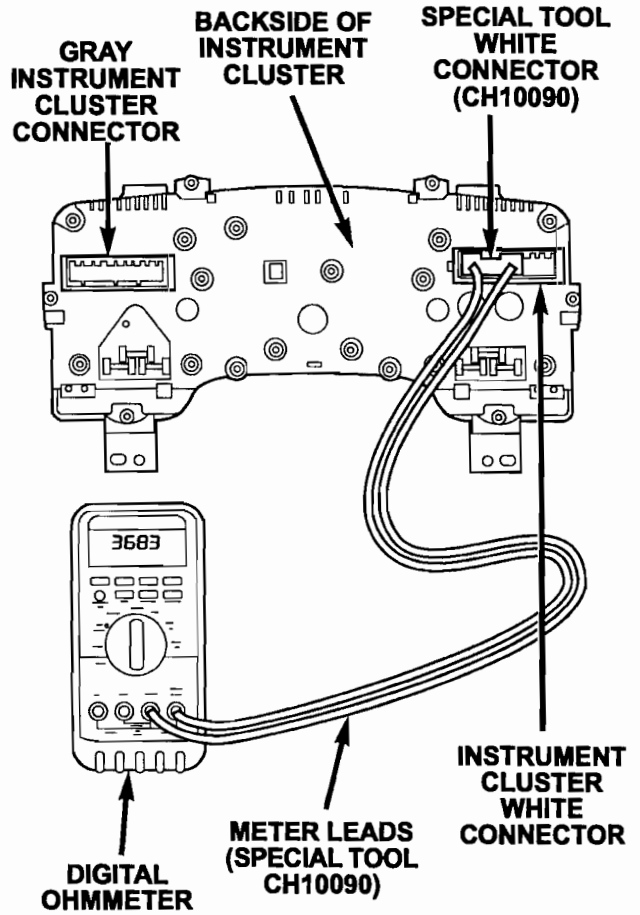

Figure 7
- b. Connect the white connector of Special Tool CH10090 to the white instrument cluster connector (Figure 7).
- c. Connect the wires of Special Tool CH10090 to the ohmmeter terminals (Figure 7).